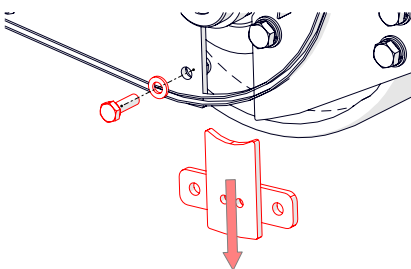

Fig. 25I - Remove the LH cover plate.
12. Remove the hex screw below the LH bearing [10 mm], attaching the metal cover (Fig. 25I).